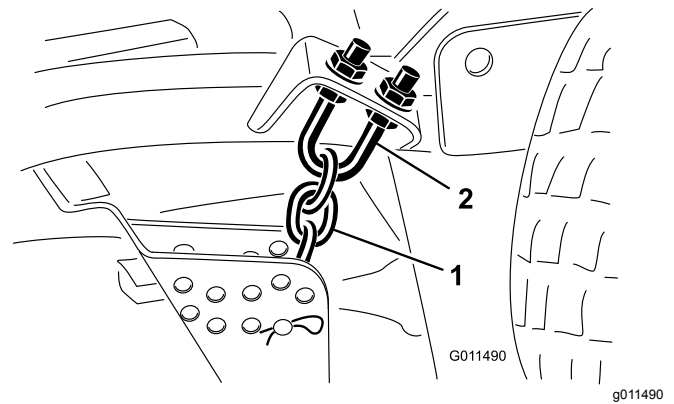

Figure 106
1. Loosen the jam nuts at the top or bottom of the height-of-cut chain U-bolt (Figure 106).